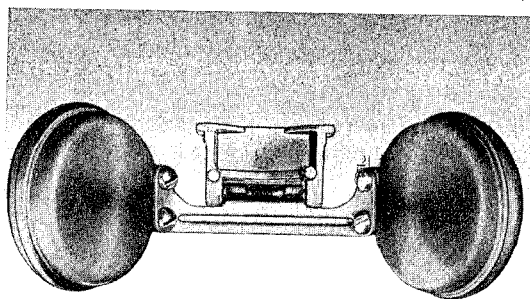

Fig. 22
2. As shown in fig. 22, place floats on a plane plate and check to see whether both floats and the float brackets touch. If necessary, rebend floats carefully.